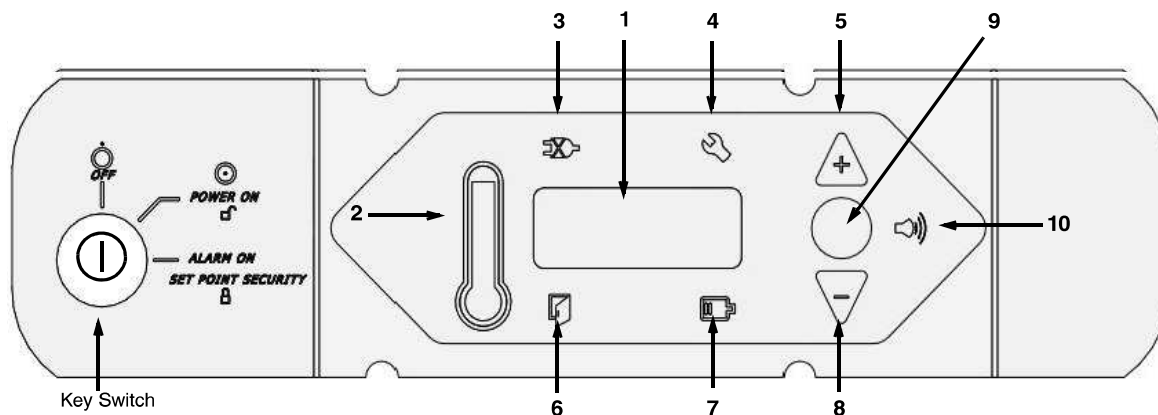

Figure 2. Refrigerator Control Panel
The control panel is located on the top right side of your refrigerator. You can use the three pushbuttons (#5, #8, and #9 in Figure 2) to change the temperature display (#1) or to adjust temperature and alarm setpoints. The thermometer display (#2) provides a quick visual indicator of current cabinet temperature and alarm conditions.
3. When simulated temperature exceeds the warm alarm setpoint, the alarm sounds and the alarm icon on the control panel illuminates (#10 in Figure 2 on page 8).